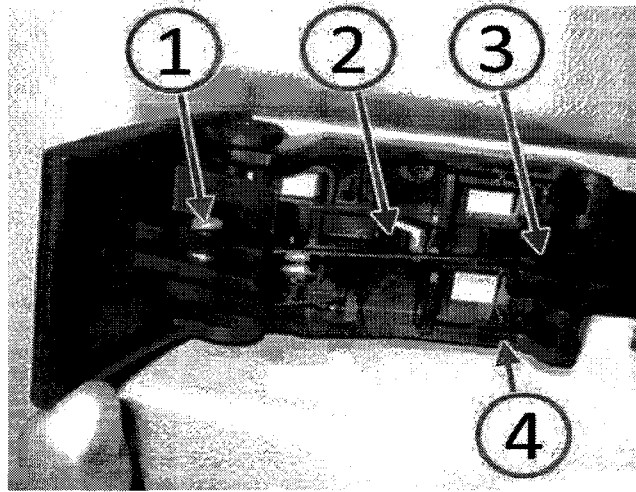

Fig. 3 Disconnect Hood Release Cable
3. Disconnect the hood latch release cable by pressing the tabs and release the cable (3) from the hood release handle (4) then remove the cable end (1) (Fig. 3).